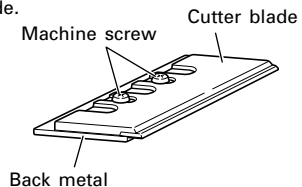

Fig. 6
- It is not necessary to disassemble the back metal from the cutter blade. (See Fig. 6)